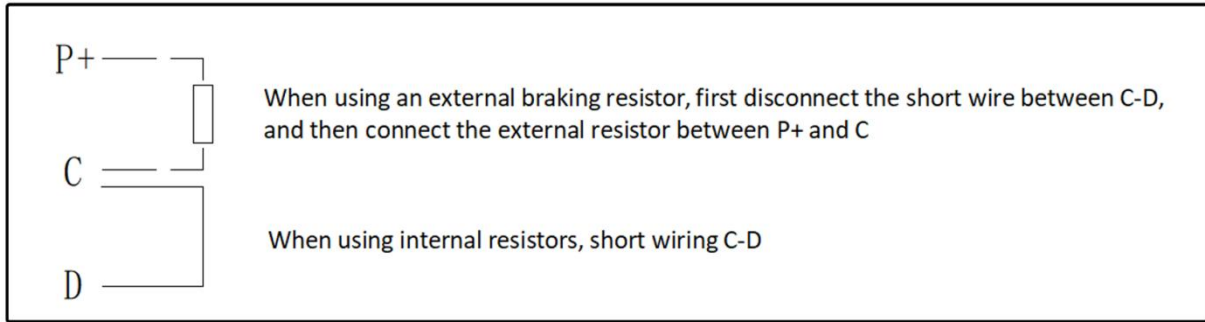

Figure 2-6 Short circuit schematic diagram of braking resistance
**Note:** When using external braking resistor or internal braking resistor, special short-circuit treatment is required, which is shown in Figure 2-6.